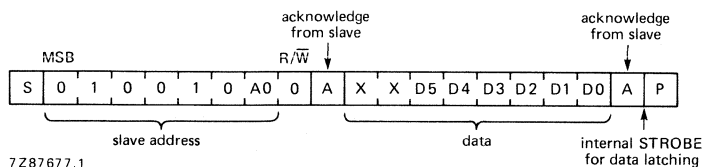

Fig. 5 I2C bus data format.
**I2C bus data configuration** (see Fig. 5)